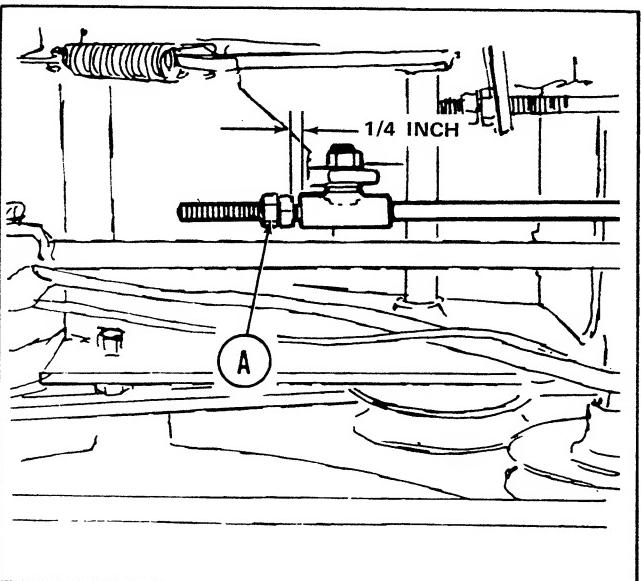

Figure 10. Clutch free travel adjustment.
See figure 10. The clutch free travel is correct when there is $1/4$ " between the nuts (A) and the rod guide when the clutch brake pedal is released and pulled rearward as far as it will go. If adjustment is required, proceed as follows:
2. Using two wrenches hold the forward nut at (A) stationary with one wrench while turning the rearward nut counter-clockwise slightly with the other to separate them.
4. Turn the forward nut at (A) as necessary so that the distance between it and the rod guide is $1/4$ " as shown in figure 10.
5. Using two wrenches hold the forward nut at (A) stationary while turning the rear one clockwise to tighten the two nuts together securely.